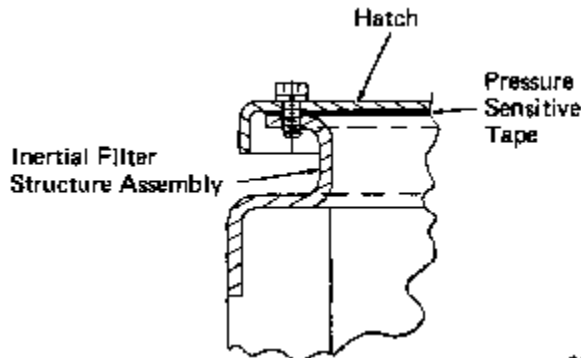

Fig. 36 - Cutaway of Pressure Sensitive Tape Application Between Hatch-To-Inertial Filter Structure Assembly
The pressure sensitive tape may be applied directly for most structural applications by peeling off the white outer covering, and firmly pressing adhesive side of tape to surface material. However, for applications in which the pressure sensitive tape is used as gasketing through which a bolt or screw shaft will pass, it is recommended that adequate diameter holes be punched in tape prior to application, (5) Fig. 31, cutaway, Fig. 36.